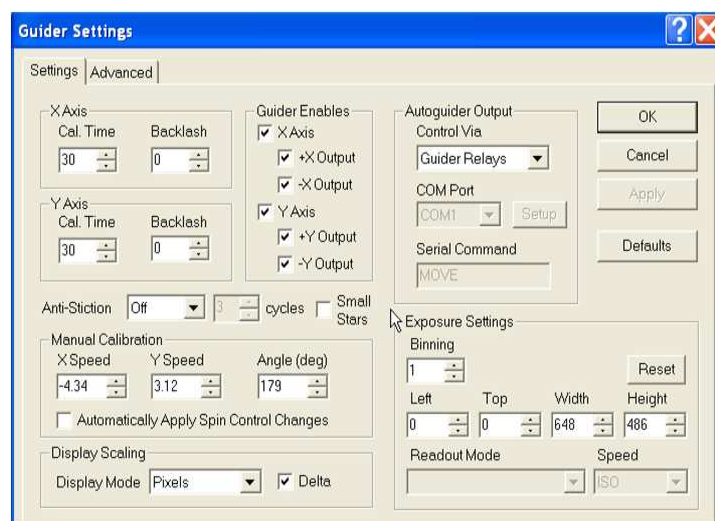

Figure 6.5: Required guider settings options.
- In the "Guide" tab set the "Aggressiveness" to x=2 y=2. Then press "Settings" and setup the guide parameters: XSpeed= -4.34 YSpeed= 3.12 and angle= 179 (these parameters may change - Check the observers folder in the eShel web-site). Once the parameters are set press "Apply" to save and close the "Settings". See Figure 6.5.